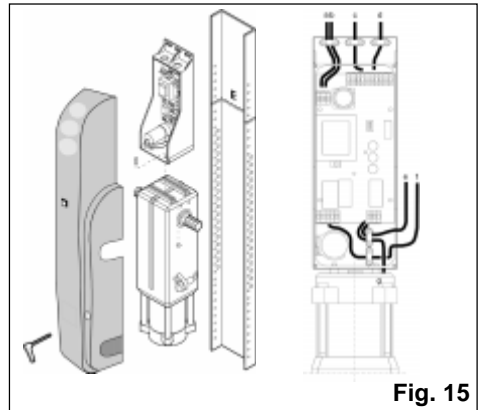

Fig. 15
- With the drive shaft at the bottom (fig. 15)